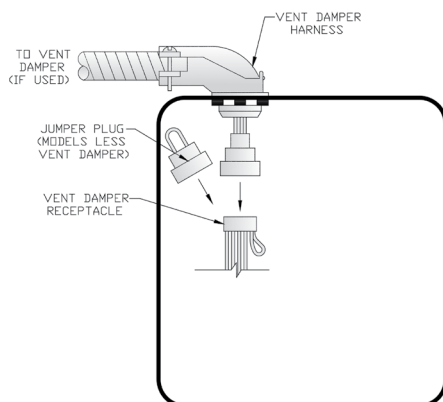

Figure 28: Vent Damper Connection Detail
- a. Remove one (1) 7/8" knockout from junction box. Carefully remove transformer - avoid undue strain on wires.
- c. Remove factory installed jumper plug (if so equipped) from Vent Damper Receptacle. Plug Vent Damper Harness into Vent Damper Receptacle. See Figure 28.